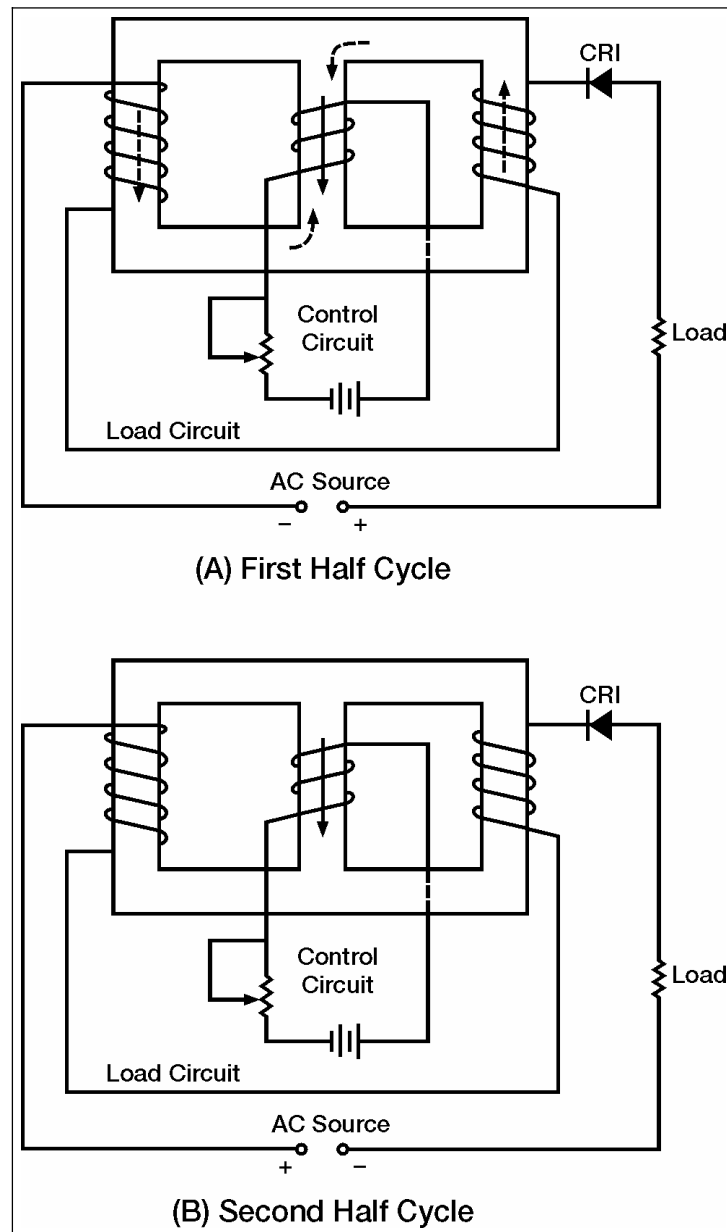

Figure 7-35. Simple Half-wave Magnetic Amplifier
7-125. Figure 7-35 shows a simple half-wave magnetic amplifier. This is a half-wave magnetic amplifier because it uses a half-wave rectifier. During the first half cycle of the load voltage, the diode conducts and the load windings develop load flux (shown in view (A) by the dashed-line arrows) The load flux from the two load coils cancels and has no effect on the control flux. During the second half cycle, the diode does not conduct and the load coils develop no flux (shown in view (B)). The load flux never has to reverse direction as it did in the saturable-core reactor, so the hysteresis loss is eliminated.
7-126. Figure 7-35 shows the circuit that is able to use only half of the load voltage (and therefore half the possible load power) since the diode blocks current during half the load-voltage cycle. A full-wave rectifier used in place of CR1 would allow current flow during the entire cycle of load voltage while still preventing hysteresis loss.